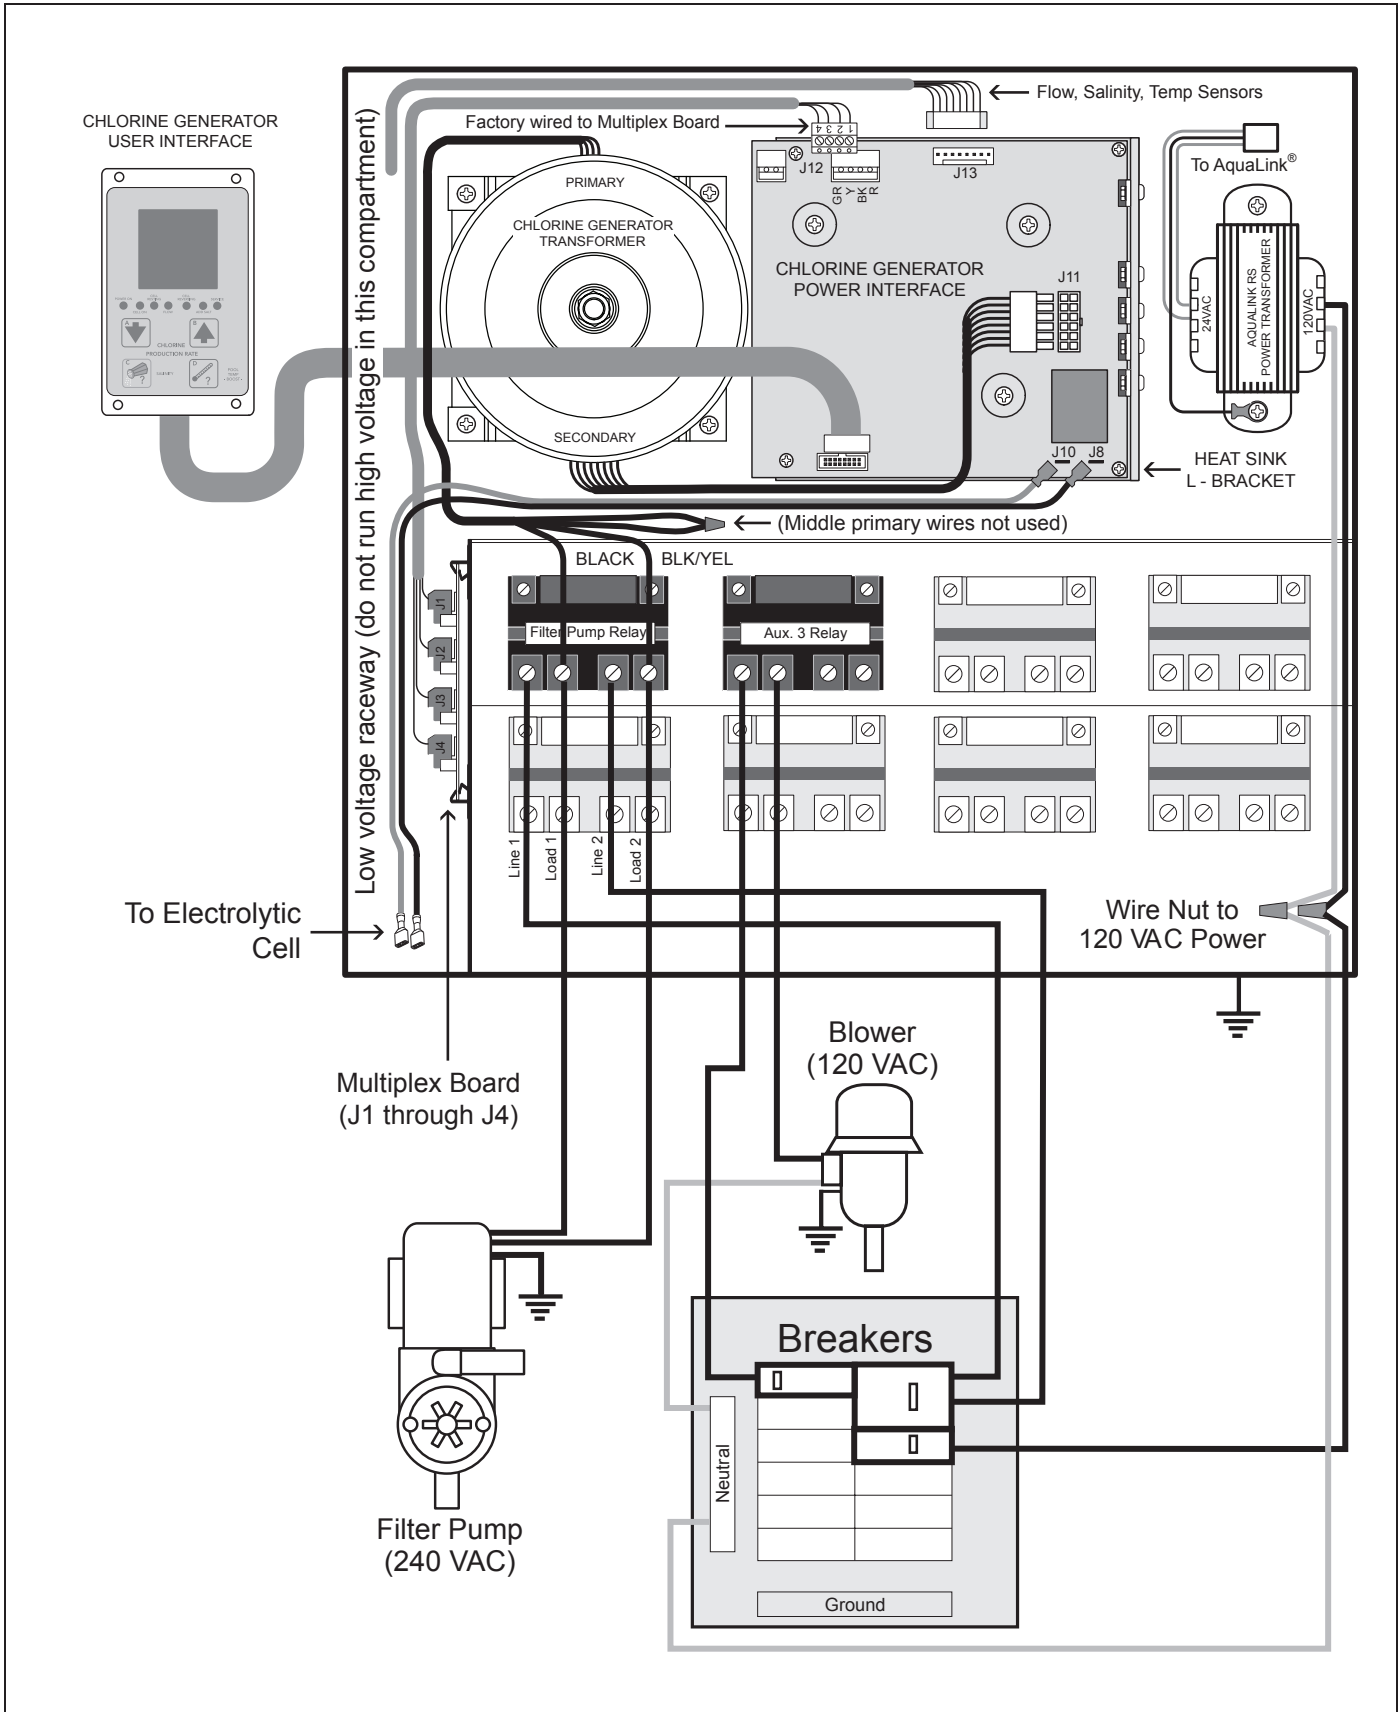

Figure 2a. Wiring Diagram for the PureLink™ System with a 240 VAC Filter Pump
7. Install the strain relief provided with the electrolytic cell kit into the low voltage knock out. Feed the connector end of the flow/temp/salinity sensor cable through the DC cord strain relief fitting. **Be certain the connector is clean and dry**, then plug the cable into the connector on the power center printed circuit board as shown in Figures 2a, 2b, and 2c. (**Do not pull Flow/Temp/Salinity Sensor cable too tight, allow a little slack**).
9. Connect the DC cord to the power center. Feed the DC cord through the same strain relief fitting as the flow/temp/salinity sensor. Plug the DC cord into the two spade connectors of the wiring harness located in the low voltage raceway of the control/power center, see Figure 2a, 2b, and 2c. This wiring harness establishes the connection between the cell and the power interface PCB.
12. Plug one end of the ribbon cable into the back of the user interface and the other end into the J1 connector on the power interface PCB (see Figures 2a, 2b, 2c, and 10).